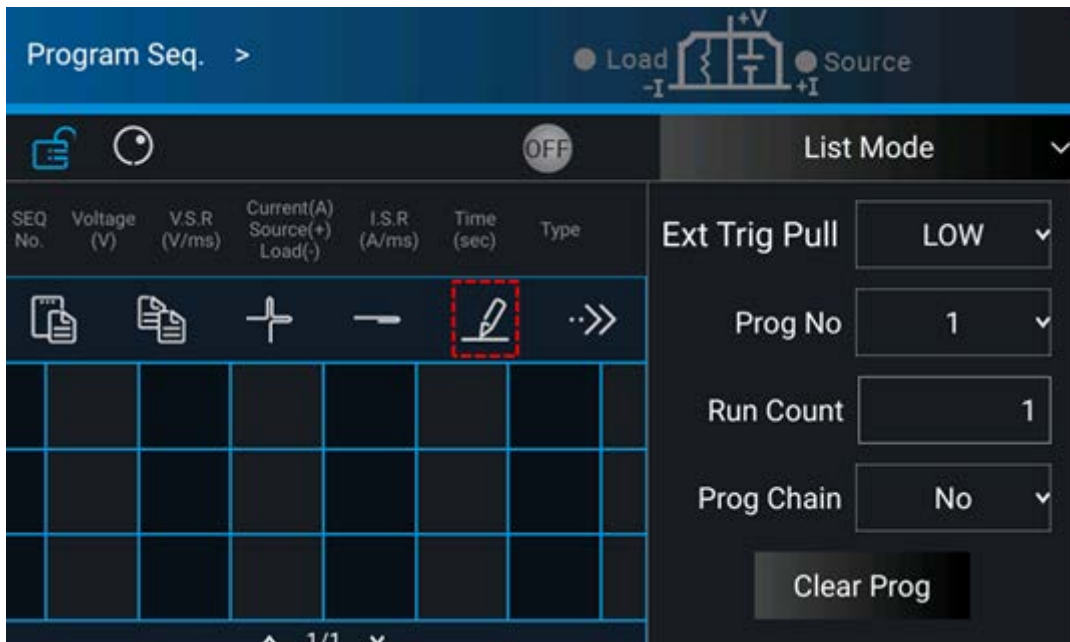
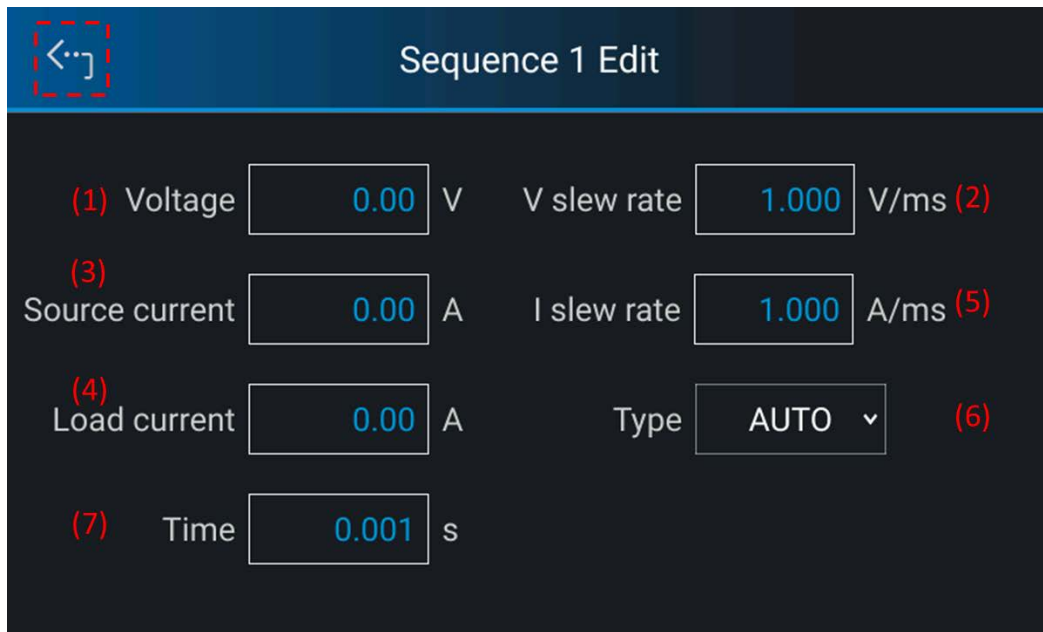

Figure 4-11
Figure 4-12
- Repeat the steps to add a new sequence to show the hidden function bar. Tap the red dot line box in Figure 4-11 to perform the setting as Figure 4-12 shows.
- Each Sequence can included the following 7 items: (1) Voltage, (2) V slew rate, (3) Source current, (4) Load current, (5) I slew rate, (6) Type, and (7) Time as described below.
1. Tap Type as labeled (6) in Figure 4-12 to set the sequence type.
When SEQ TYPE = SKIP is selected, the Sequence page as shown in Figure 4-12 indicates the Sequence will skip automatically and jump to next sequence.
1. Tap Figure 4-12 (7) to set the time parameter.
1. Tap Figure 4-12 (1) to set the voltage parameter.
1. Tap Figure 4-12 (2) to set the voltage slew rate.
1. Tap Figure 4-12 (3) (4) to set the current parameter.
1. Tap Figure 4-12 (5) to set the current slew rate.